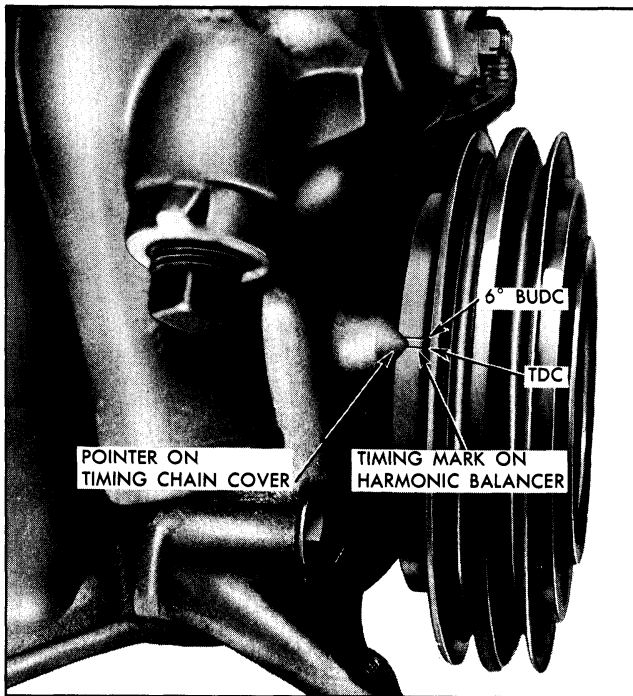

Fig. 11-49 Timing Marks and Pointer
1. Check to see that engine is at firing position for No. 1 cylinder (No. 1 piston at top of compression stroke) and timing mark on harmonic balancer is indexed with pointer (Fig. 11-49).
Correct timing of the spark, with relation to engine piston position, is made in the shop by use of a power timing light and timing marks on the harmonic balancer (Fig. 11-49).